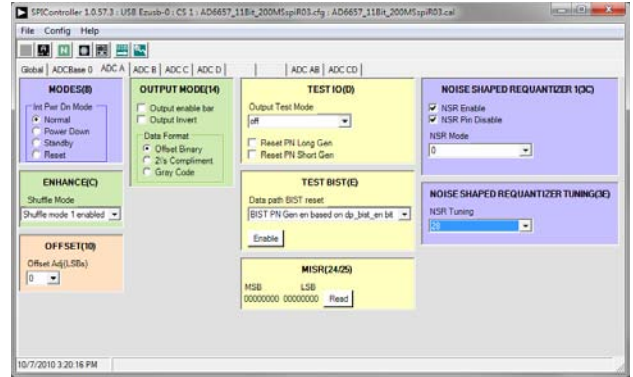

Figure 15. SPIController, Example ADC A Page – NSR Settings
4. If using the NSR feature, first change the settings in the **ADC A**, **ADC B**, **ADC C**, and/or **ADC D** pages (see Figure 15) to the desired settings.